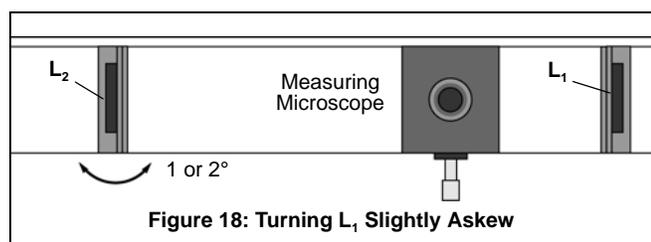

Figure 18: Turning L_1 Slightly Askew
33. Clean up the point image by turning L_2 slightly askew, so it is no longer quite at a right angle to the beam axis (see Figure 18).